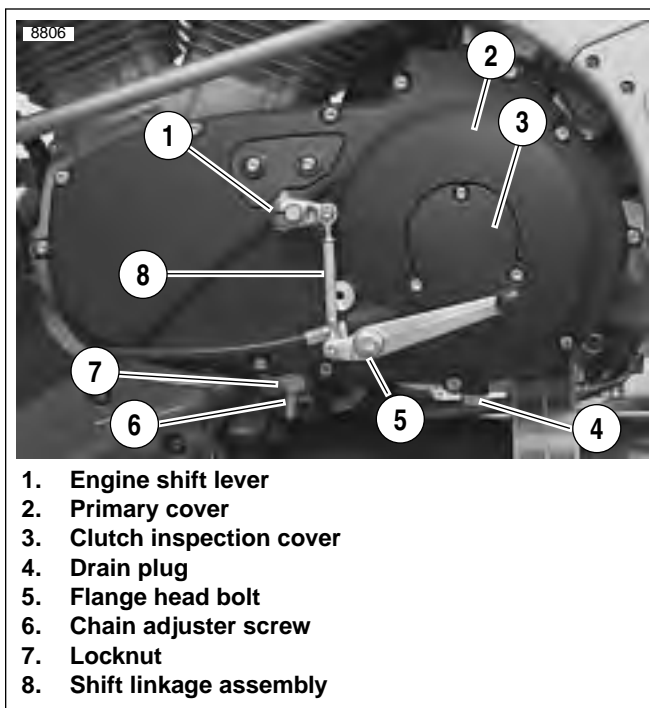

Figure 6-8. Installing Shift Linkage
- See Figure 6-8. Install rubber washer and engine shift lever assembly (1).
- After applying LOCTITE 272, install flange bolt (5) and shift pedal to primary cover, and tighten to 22-24 ft-lbs (30-32.5Nm).
- If the shift linkage assembly (8) was removed for any reason, apply Loctite 272 to fasteners and tighten to 36-60 **in-lbs** (4-6.8 Nm). Adjust to rider comfort.